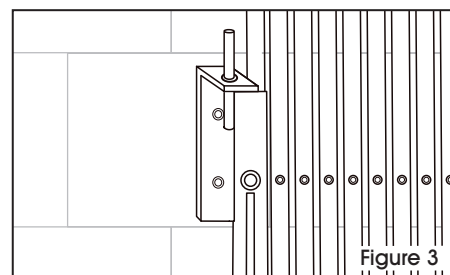

Figure 3
3. Extend gate and hang "L" bracket on top of gate to verify where it will be mounted. To release tension you may lift the wheel 1/2"-3/4" off the floor. Mark and drill pilot holes into door frame or wall. It may be easier to drill pilot holes if you remove the gate from it's floor mount. Place bearing washer and bottom gate pin back into floor mount. Slip "L" bracket over top of gate and bolt (not included.) (See Figure 3)